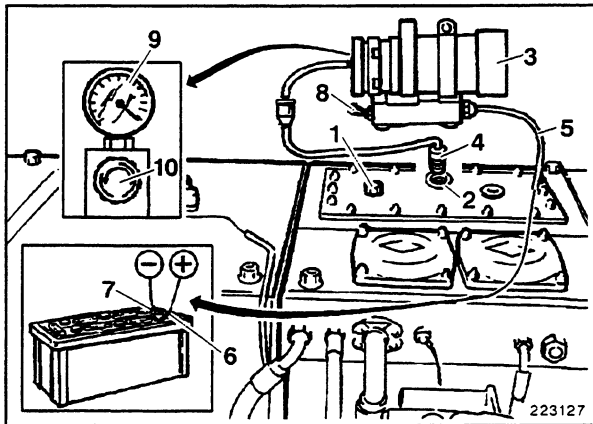

Fig. 1
- PCS tester (Fig.1)**
- Depressurize the hydraulic reservoir. To do so, screw out drain plug (1, Fig. 1).
- Screw out the breather filter (2, Fig. 1).